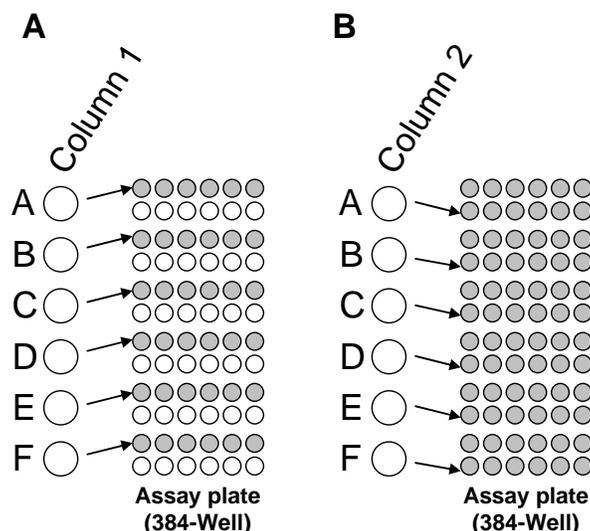

Figure 3. Transfer of tracer dilutions from 96-well to 384-well plate.
1. Add 5 μL each concentration of serially diluted tracer to six replicate assay wells (columns 1–6) (Fig. 3).